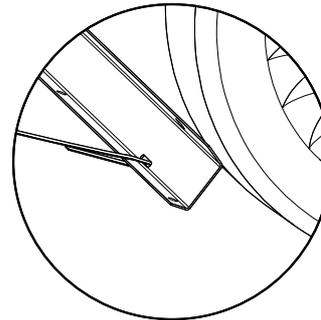

Figure 21 - Cylinder Support Strap
- Slide the cylinder support strap into the slots located in the uppermost cylinder support bracket (shown in **Figure 21**) so that the strap are in line with the rafter or as close as possible to them.
- Slide the cylinder support strap into the slots located in the uppermost cylinder support bracket (shown in **Figure 21**) so that the strap are in line with a suitable fastening point.